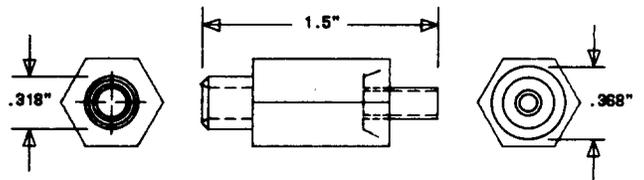

Fig. 30—KS-21873, L2, Inserting Guide Bushing Tool
2.32 **KS-21873, L2**: The KS-21873, L2, inserting guide bushing tool (Fig. 30) is used with the 358-type coaxial plugs.